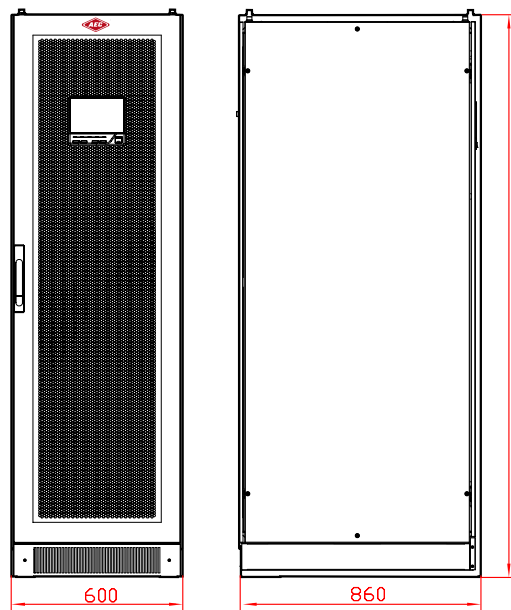
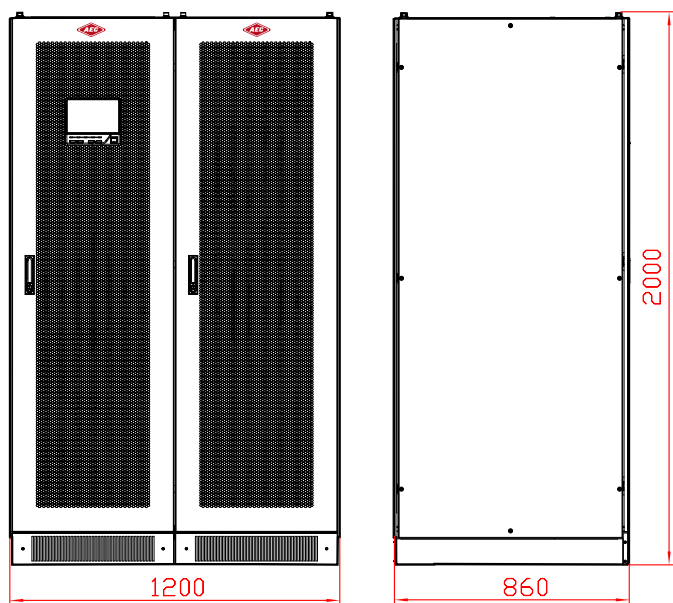

Figure3-8 Size of IST6200, IST6300
Figure3-9 Size of IST6400, IST6500, IST6600
- Step 1 Determine and plan the installation position according to the UPS size (as shown in Figure3-8, Figure3-9) and installation clearance requirement (see **3.2.3 Installation Space**).